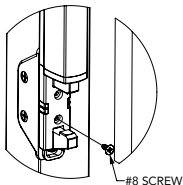

Figure 3
7. Slide the latch body back down over both the mounting brackets. Position the latch at the proper height and secure with a (included) #8 flat head screw (Figure 3).